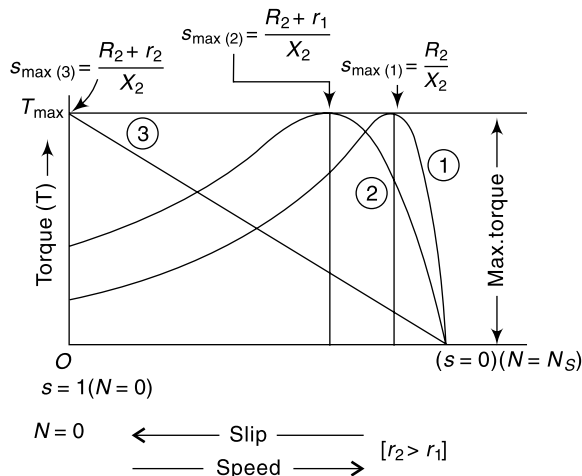

Fig. 10.4 Torque-slip characteristics of an induction motor
i.e., *the torque T slip s curve for larger values of slip is approximately a rectangular hyperbola.* Consequently, any further increase in motor load, beyond the point of maximum torque, results in decrease of the torque developed by the motor. Eventually, the motor slows down. The maximum torque developed in an induction motor is called the *pull-out torque* or *break down torque*. This torque is a measure of the short time over loading capability of the motor. Figure 10.4 Shows the torque-slip characteristics of an induction motor operating with constant applied voltage, and constant frequency.